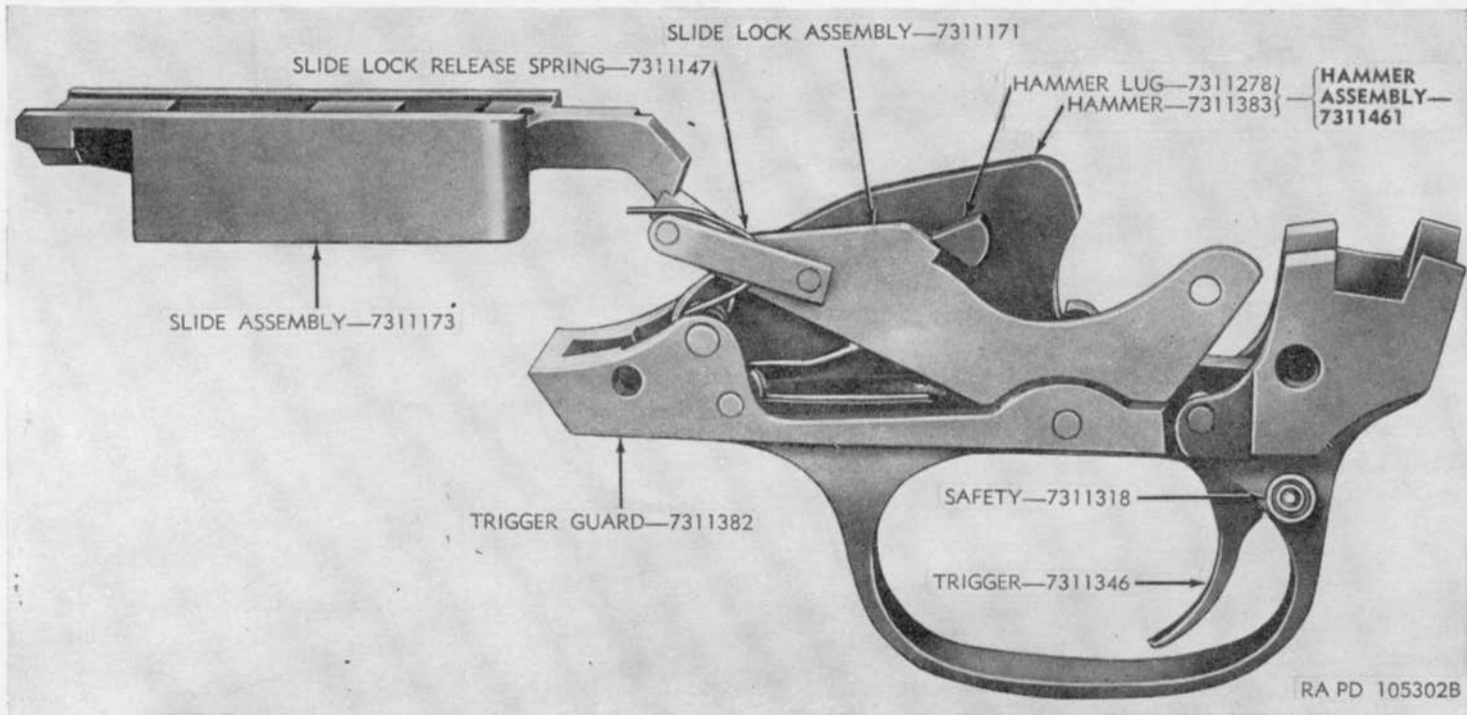

Figure 49. Slide and trigger guard group in battery position—hammer unlocked, slide blocked.
(1) Make certain all parts work together without sticking or binding.
(2) Move safety to ON and OFF positions several times to check for smooth action. Cock hammer far enough for sear to engage hammer, but not far enough to allow slide lock and hammer to engage. Move safety to the right for Stevens shotgun M620A or forward for Stevens shotgun M520-30 and attempt to pull the trigger. The trigger must release the engaged sear and hammer. Move safety to the left for Stevens shotgun M620A and rearward for Stevens shotgun M520-30 and pull the trigger. The trigger releases the hammer, allowing it to return to fired position. Cock the hammer again until the hammer lug and slide lock slot are locked. Press forward end of slide lock assembly down. This releases the locking surfaces from each other and the hammer is caught by the sear which will not allow it to go forward until the trigger is pulled.
(3) Check engagement of the slide lock and slide assemblies in the locked and unlocked position (figs. 49 and 50). When the slide is fully forward, the slide lock must block the slide by interposing its forward end against the rear projecting lug on the slide. Engagement of these parts may be observed, if the sliding breech and slide and the trigger guard are installed in the receiver without the lifter and the parts manipulated back and forth from locked to unlocked position. The angle of the mating parts must coincide.